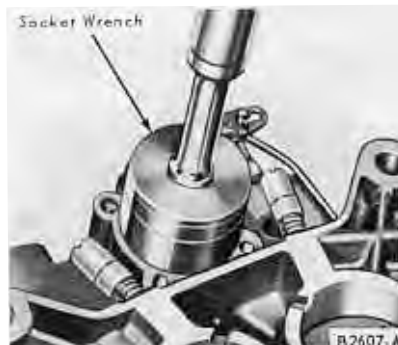

FIG. 18—Power Valve Removal or Installation
7. Invert the main body and remove the power valve cover and the gasket. Remove the power valve with a box wrench or socket wrench (Fig. 18). Remove the power valve gasket. Discard the gasket.
10. Invert the main body. Install the power valve (economizer valve) and new gasket with a wrench (Fig. 18). Tighten the valve securely. Install the power valve cover and new gasket.